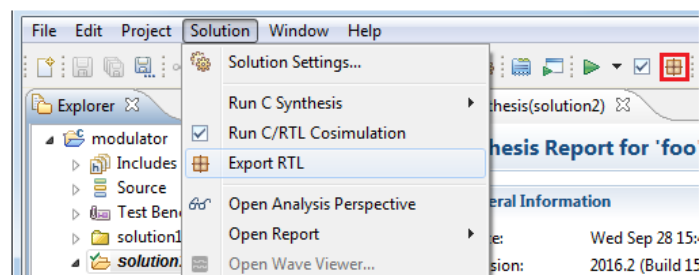

Figure 2.61: Export RTL option
1. Open the **Export RTL** dialog box by clicking the **Export RTL** toolbar button or choosing the **Solution** -> **Export RTL** option from the main Vivado HLS menu, see Figure 2.61.